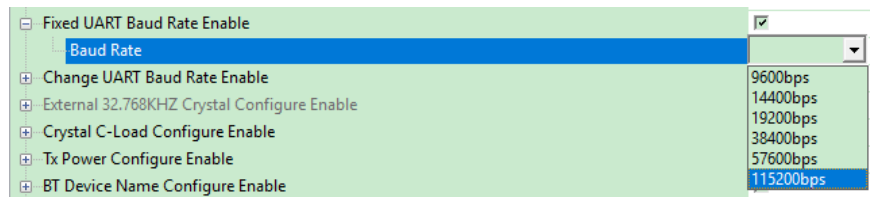

Figure 12
- **Fixed UART Baud Rate Enable:** Click to enable “Setup the internal MCU default baud rate” and click the additional item “Baud Rate” to select a baud rate, as shown in Figure 12.